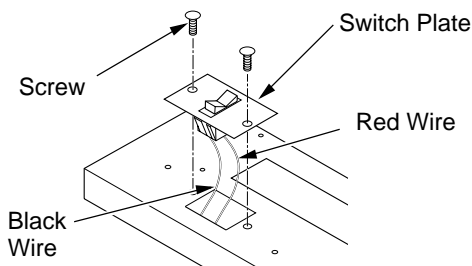

Figure 36 - Switch Plate and Wiring Harness
3. Remove switch plate (see Figure 36). Discard switch plate after removing. Save the screws.